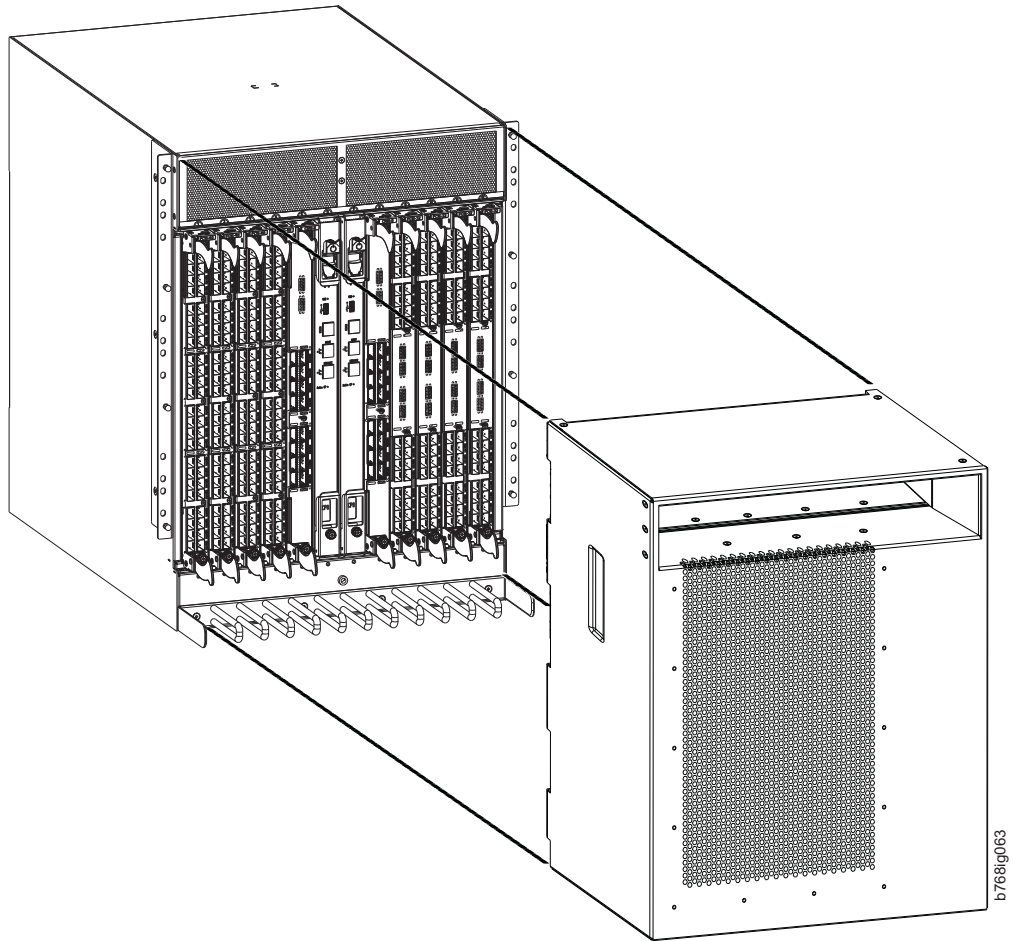

Figure 23. Chassis door
2. Pull and remove the door. It will pop off the ball studs (Figure 23 on page 68).
1. Align the holes in the back side of the door with the ball studs on the chassis. See Figure 23.